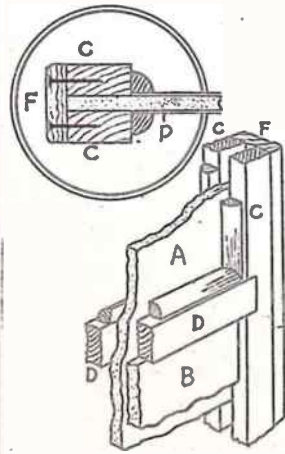

Fig. 6
All the outside edges of each leaf must now be cleaned up with glass-paper before the edging strips (F) are put on. As will be seen in the circled section in Fig. 6 and in the other diagrams, these strips cover the edges of the fibre board and the junctions of this with the inner edging strips (C), (D) and (E), and make a very presentable finish all round each leaf. Some ½ in. fine wire nails may be added as shown.
the circled diagram Fig. 6, with the quarter beading added.